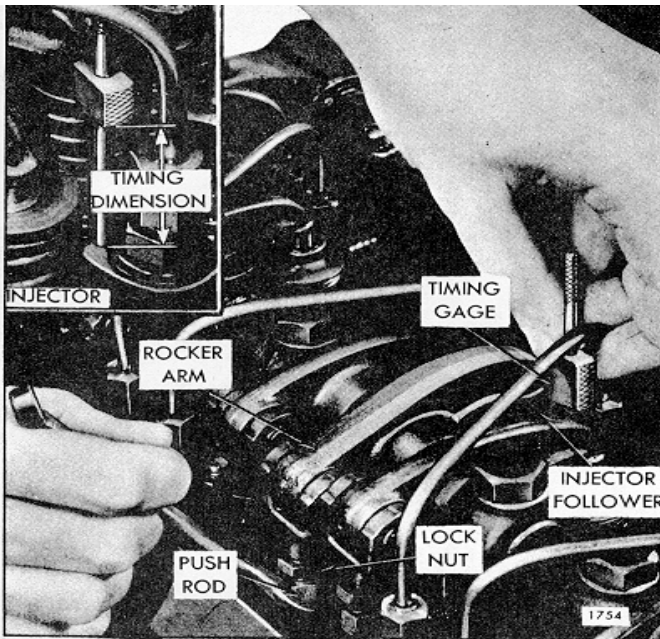

Fig. 1 - Timing Fuel Injector
3. Place the small end of the injector timing gage (refer to the charts for the correct timing gage) in the hole provided in the top of the injector body with the flat of the gage toward the injector follower (Fig. 1).